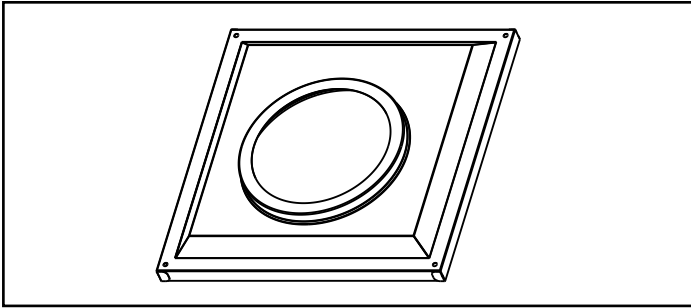

Figure 7.17 Wall Thimble
- Once the pipe section and the termination cap have been connected, slide the wall thimble up to the interior wall surface and attach with screws provided. See Figure 7.17.